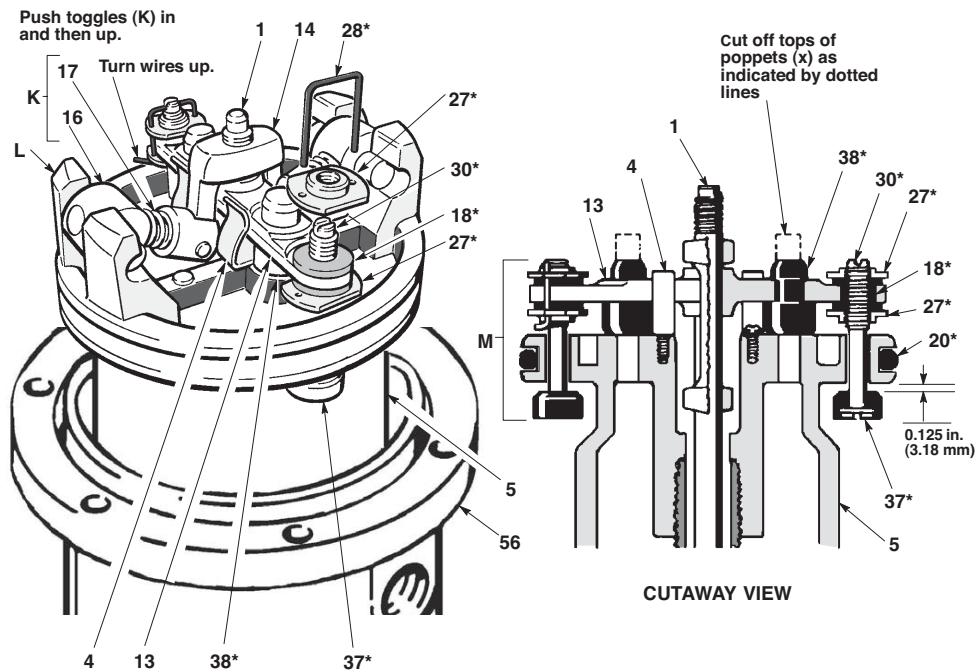

FIG. 5
5. Use a screw driver to push down on the trip rod yoke (14) and snap the toggle assemblies (k) down. Remove the lockwires (28) from the adjusting nuts (27) of the transfer valves (M). Screw the top adjusting nuts (27) off. Screw the valve stems (30) out of the grommets (18) and lower adjusting nuts (27). Take the valve poppets (37) off the stems and squeeze them firmly to check for cracks. (FIG. 5)
6. Grip the toggle rockers (16) with a pliers. Compress the springs (17) and swing the toggle assembly (K) up and away from the piston lugs (L), and remove the parts. Check that the valve actuator (13) is supported by the spring clips (4), but slides easily into them. (FIG. 5)
7. Remove the trip rod yoke (14), valve actuator (13) and trip rod (1). Check the exhaust valve poppets (38) for cracks.
- NOTE:** To remove the exhaust valve poppets (38), stretch them out and cut with a sharp knife.
8. Pull the piston (5) up and out of the base (56) and inspect the piston o-ring (20) and the o-ring base casting.
- Be sure the o-rings are in place. Slide the piston rod down through the throat bearing and lower the piston (5) into the air motor base (56).
- Pull the exhaust valve poppets (38) into the valve actuator (13) and clip off the top part shown with dotted lines. (FIG. 5)
- Install the transfer valve poppets (37) onto the valve stems (30), then reassemble the valve stems (30), bottom adjusting nuts (27), grommets (18), and top adjusting nuts (27) on the piston (5). Assemble the trip rod (1), valve actuator (13), trip rod yoke (14) and toggle assemblies (K) on the piston. (FIG. 5)
- Before installing the lockwires (28) in the adjusting nuts (27), use the special gauge, 171818, to adjust the transfer valve (M) so there is 0.125 in (3.68 mm) clearance between the poppets (37) and the piston (5) when the toggle assemblies are in the down position. (FIG. 5)
- Snap the toggle assemblies (K) to the up position. Reinstall the cylinder (32) and cap nut (31). Reassemble the air motor to the displacement pump.